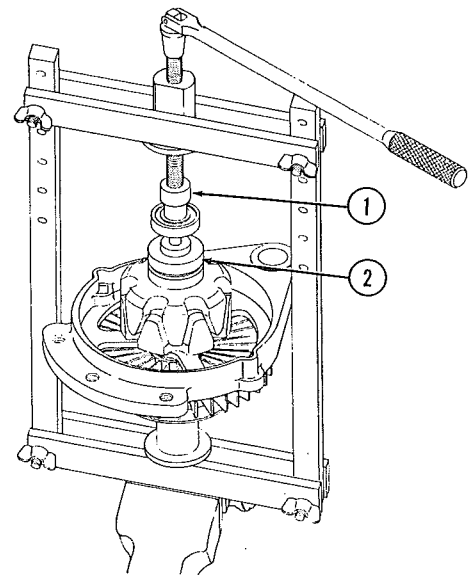

FIG. 83—INSTALLING REAR BEARING
b. Place the rear bearing on the rotor shaft front end, using Bearing Installer C-3935, or equivalent socket, to fit inner race of bearing, as shown in Fig. 83.